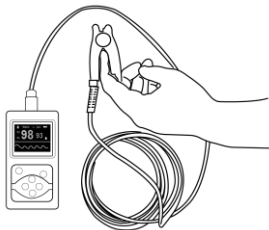

Figure5.
- b) Put the finger into the probe. Refer to Figure 5.
(Actual probe may be different with the probe as Figure 5, please accept the actual probe with the device )
- B.** The finger should be in a proper position (see the attached illustration of Figure 5 for reference), or else it may result in inaccurate measure.